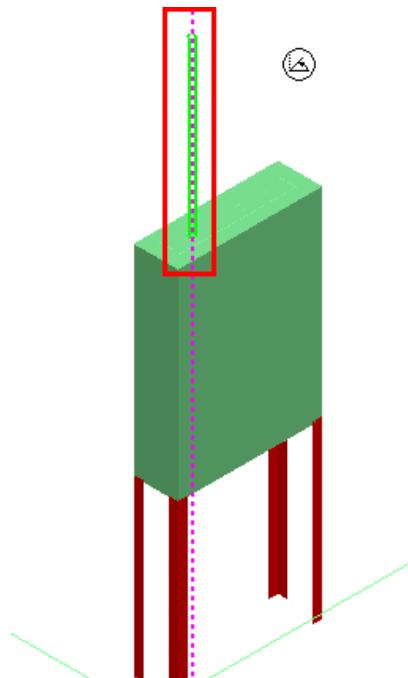

Figure 10: Conduit Run in the Upward Direction
- Move the cursor in the elevation **EL** direction in the graphic view and click in the graphic view to accept the position of the conduit, as shown in Figure 10.